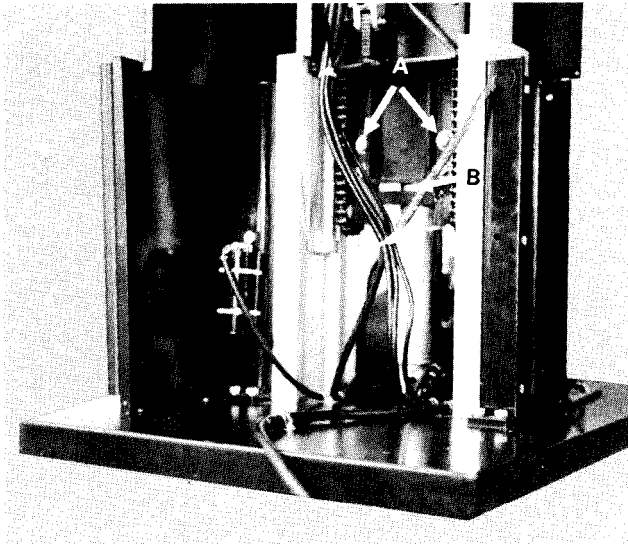

Fig. 31
- 2) With the table raised all the way up to highest position, loosen the 4 bolts (Item A, Fig. 31) with 9/16" socket wrench.
- 3) Insert a prybar or large screwdriver in the center of slot. (Item B, Fig. 31.)